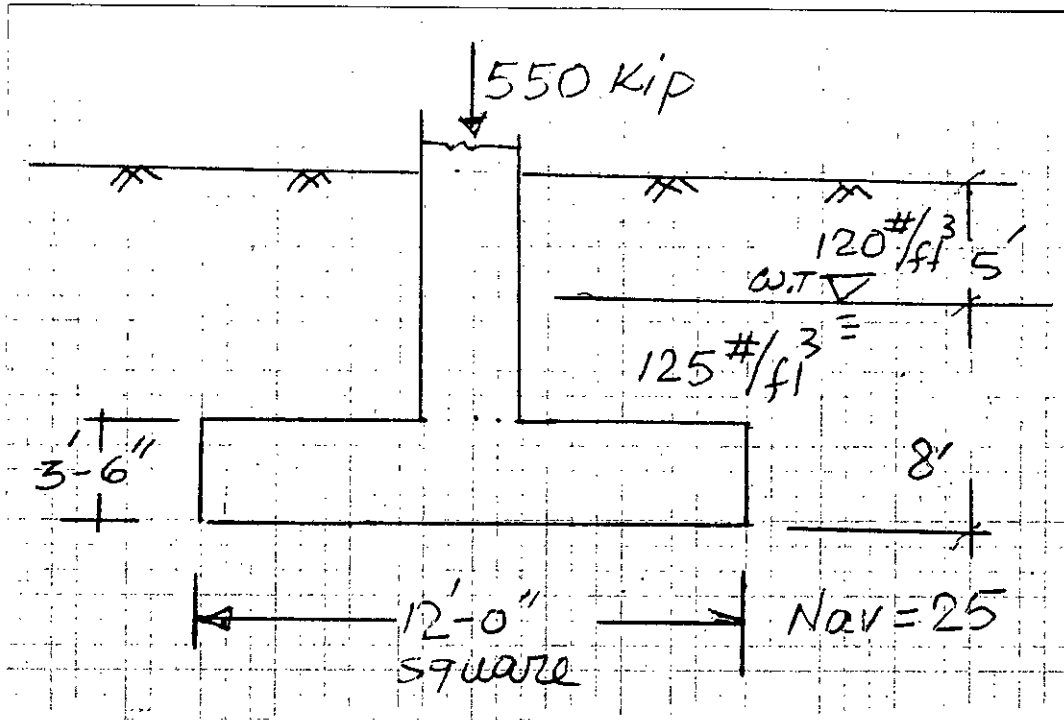
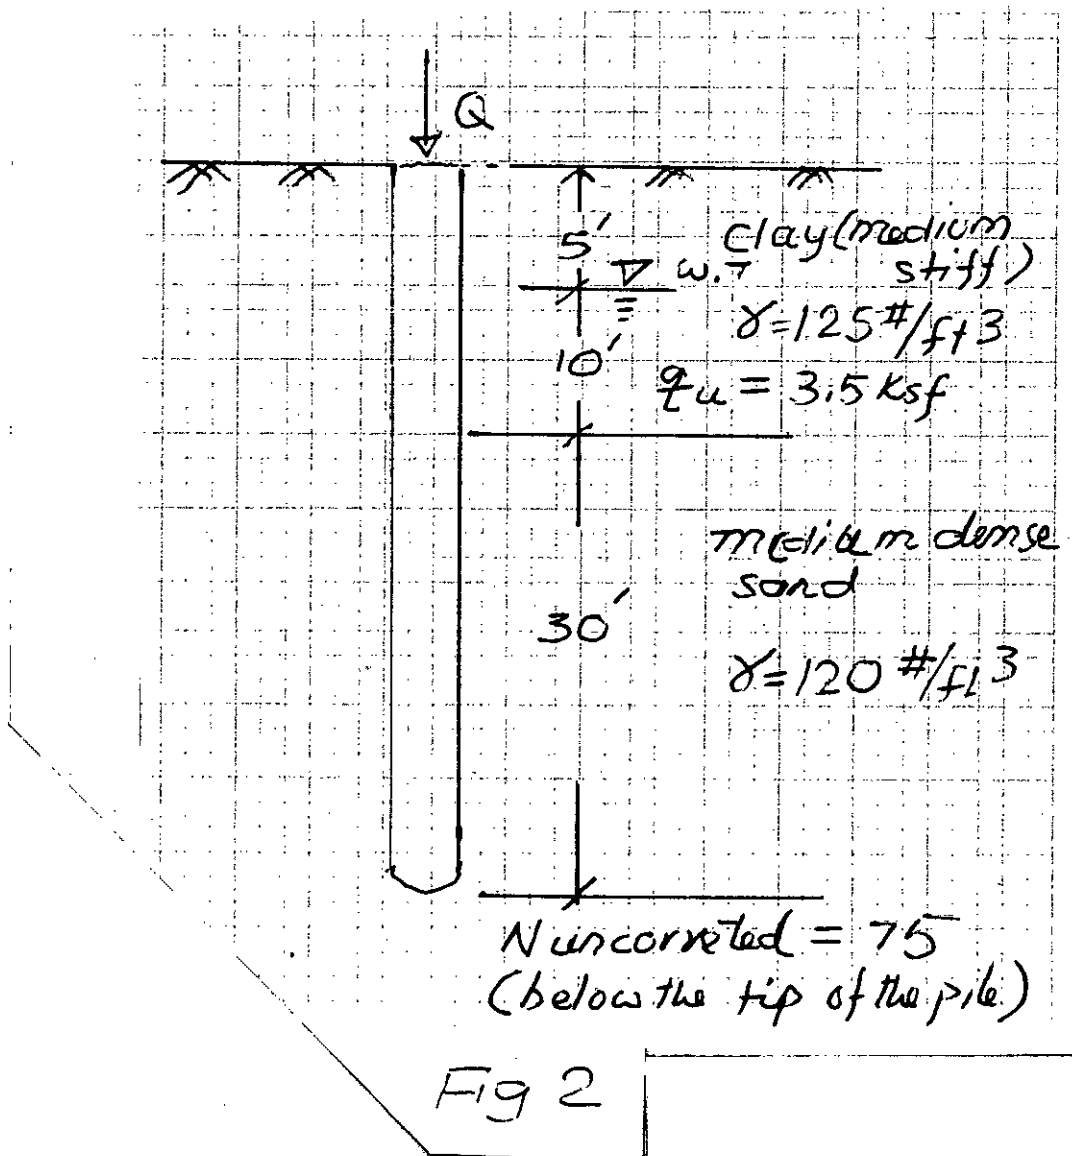

Fig 1
Fig 2
1. (a) Why a larger magnitude of settlement is allowed for the design of raft foundation? (6)
- (b) Write down the assumptions made in deriving Terzaghi's bearing capacity equation for a shallow foundation of a long footing resting on clay. Derive bearing capacity equation for a wall footing resting on clay assuming failure occurs due to rotation about one of its edges. Compare this equation with Terzaghi's equation and state the reasons for the differences in those two equations. (13)
- (c) A raft 72 feet x 72 feet in plane has its base 15 feet below the surface of a deposit of clay with a unit weight of 130 lb/cu.ft. The undrained shear strength of the clay, determined in the laboratory is found to be 0.75 ton/st ft. The factor of safety against bearing capacity failure must be 2.5 and the water table exists at the ground level. Draw the schematic diagram and also calculate the total weight of the building plus foundation can safely be supported by the raft. What will be the depth of foundation when factor of safety approaches to the infinity? (16)
2. (a) Discuss the factors affecting bearing capacity of a shallow foundation. (10)
- (b) Write down the step by step procedure for calculating axial force on each pile of a pile group. The pile group is subjected to a vertical load of "V" and a moment of "M". Piles spacing's and its length are given. (10)
- (c) Estimate the settlement of a footing (Fig. 1). Compute the factor of safety against a bearing capacity failure. The N-values have been corrected for over burden pressure. (15)
3. A 16 inch x 16 inch concrete pile was driven in a dense sand with 40 feet embedment length. The depth of water table was 10 feet from the ground surface and the unit weight of sand above and below the water table were given as 120 lb/cu.ft and 125 lb/cu.ft Draw the schematic diagram of the problem and estimate the allowable pile capacity with factor of safety 2.5. (18)
- (b) Calculate the allowable uplift capacity of the driven pile as described in Ques. 3(a). (10)
- (c) "Sometimes use of bored pile is more preferable to driven pile, although capacity of later is larger in compared with bored pile", Explain. (7)
4. (a) A group of 4 piles with 2 piles in a row were driven into a soft to medium stiff clay extending from ground level to a greater depth. The diameter and the length of the piles were 20 inch and 40 feet, respectively. The unconfined compressive strength of clay is 1.0 ton per sq.ft. The piles are spaced at 5 feet centre to centre. Compute the group capacity with a factor of safety of 2.5. The thickness of the pile cap is 3 feet and its top surface coincides with existing ground level. Draw the schematic diagrams (plan and sectional view of the pile group). Assume water table exists at the ground surface level and the unit weight of clay is given as 122 lb per. cu. ft. (15)
- (b) A bored pile (cast-in-place) with 30 inch dia. with 45 feet length was installed as shown in Fig. 2. Calculate allowable capacity of the pile with a factor of safety of 3.0 by using Reese and O'Neill (AASHTO, 1992) method. (20)